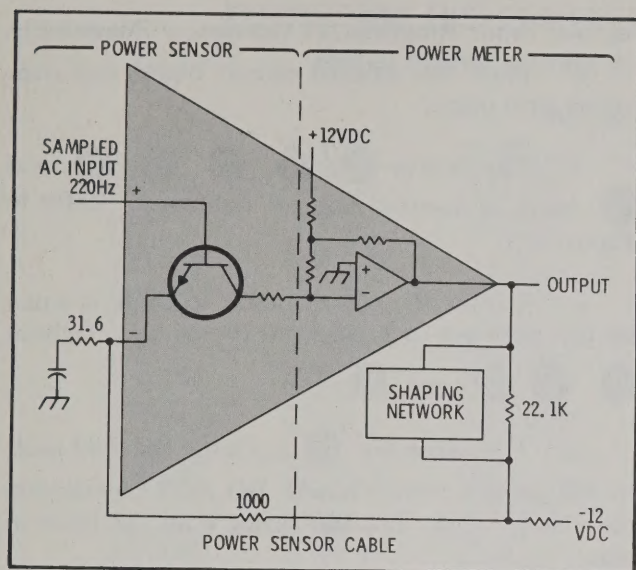

Figure 9. Hybrid Operational Amplifier
42. The thermocouples contained in the Model 8482A present a 50-ohm load to the RF signal coupled into the Power Sensor. As the RF signal is dissipated by the thermocouples, they generate a dc voltage that is proportional to the RF input power. This dc output is coupled to the FET sampling gate (chopper) circuit where it is sampled at a 220 Hz rate. The gate circuit output is therefore a 220 Hz ac signal whose amplitude is proportional to the RF input power. The ac signal is amplified approximately 750 times by a hybrid operational amplifier made up of the power meter's first amplifier and the Input Amplifier of the 8482A. Figure 9 is a simplified diagram showing the hybrid operational amplifier circuit configuration.